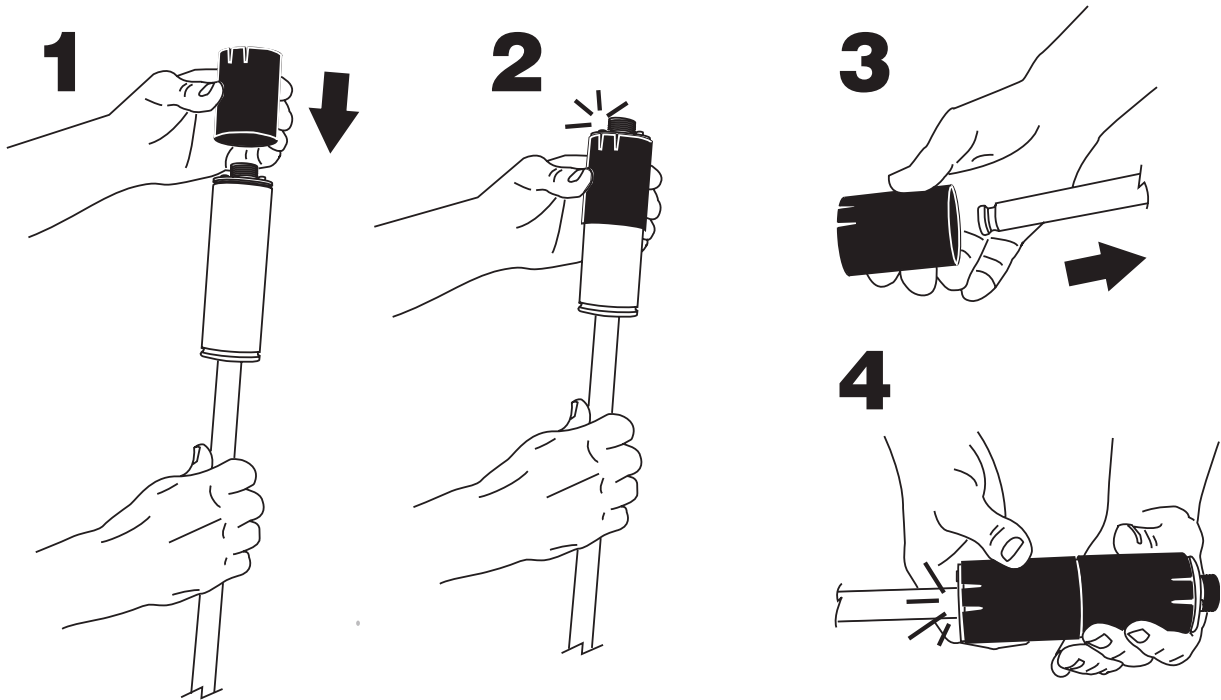

Figure 3. Installing Probe Canister Insulator Sleeves
| Figure 3. Installing Probe Canister Insulator Sleeves .....                              | 4 |
2. Install the two canister sleeves onto the probe canister as shown in Figure 3.